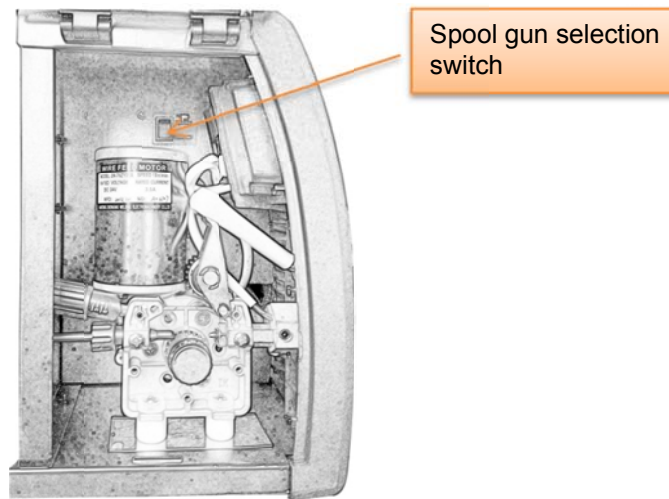

Figure 3.4
- 3-8.2. Toggle the spool gun selection switch to “spool gun” selection(see figure 3.4)